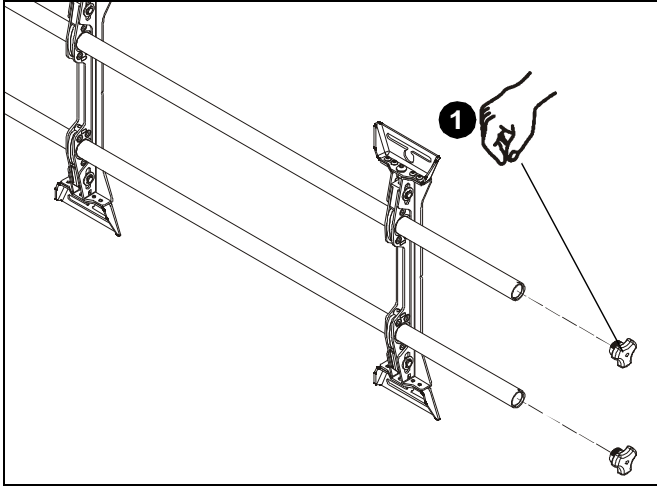

Figure 1
1. Remove caps from one side of mounting rails on XTM1U/XSM1U mount. (See Figure 1)